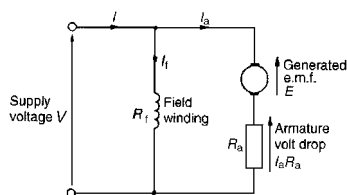

Figure 22.16
In the shunt wound motor the field winding is in parallel with the armature across the supply as shown in Fig. 22.16
For the circuit shown in Fig. 22.16,
- (ii) The armature circuit of a d.c. motor has resistance due to the armature winding and brushes, R_a ohms, and when armature current I_a is flowing through it, there is a voltage drop of $I_a R_a$ volts. In Fig. 22.16 the armature resistance is